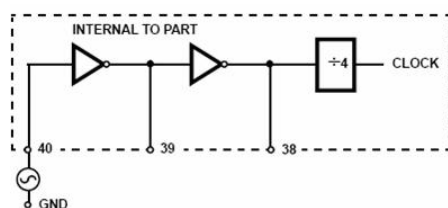

Figure 3A
1. Figure 3A. An external oscillator connected to pin 40.